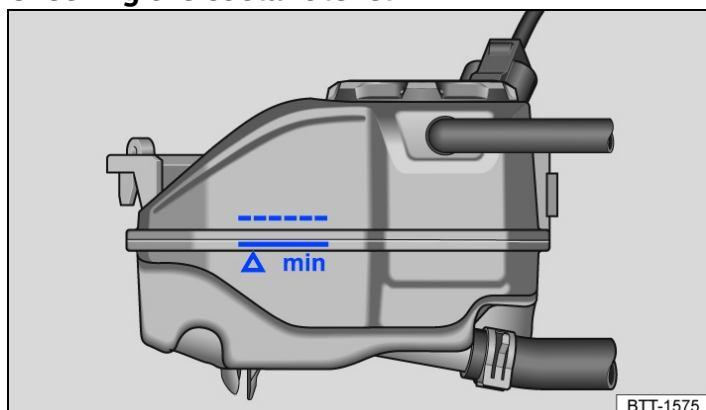

Fig. 2 In the engine compartment: markings on the coolant
- When the engine is cold, check the coolant level at the side markings of the coolant expansion tank → *Fig. 2*. The coolant level must be between the marks.
- After adding the coolant, the coolant level must be between the markings on the coolant expansion tank → *Fig. 2*.